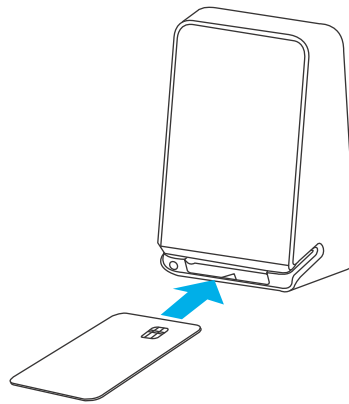

Figure 8 Inserting a Smart Card
- 1 Position the smart card with the contacts facing upward (see Figure 8).